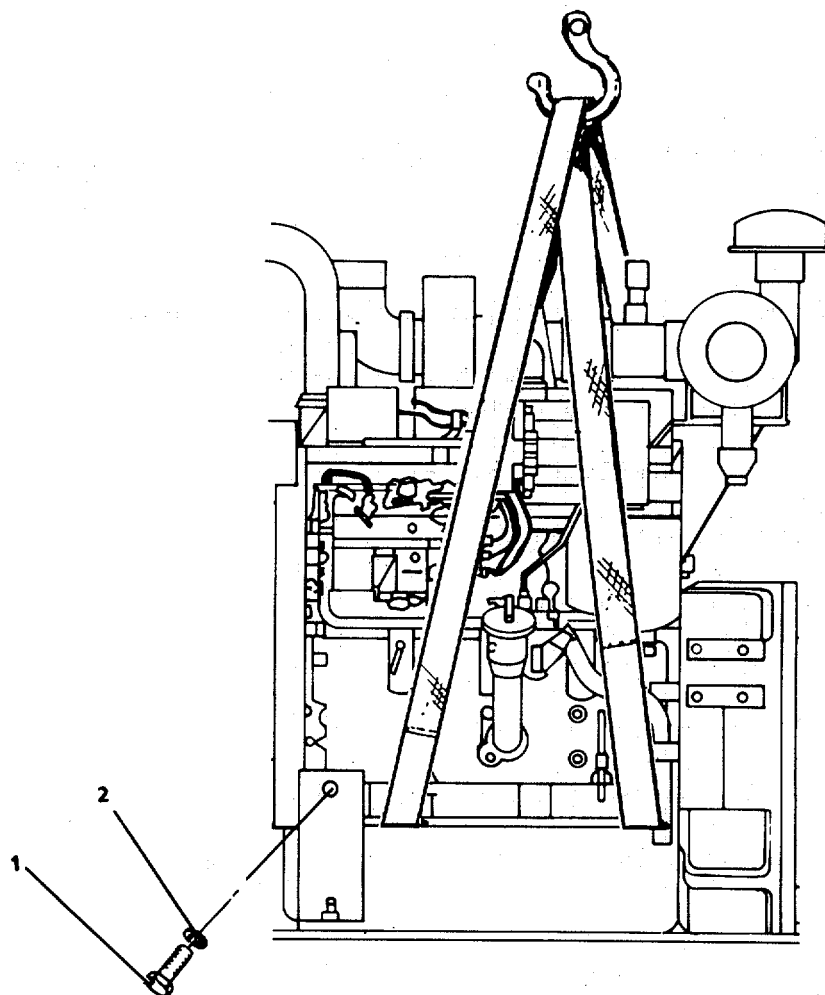

FIGURE 3-34. Diesel Engine.
3-16. **Replace/Repair Diesel Engine.** (FIGURE 3-34)
- f. Attach lifting fixture to diesel engine. (FIGURE 3-34)